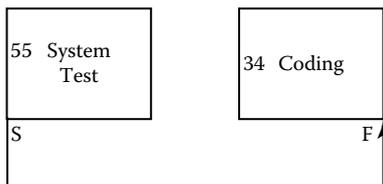

Figure 9.8 A Start-to-Finish (S-F) relationship.
4. Start-to-Finish (S-F; Figure 9.8). This relationship is infrequently used and not implemented in most PC software. The example in Figure 9.8 says that you cannot finish “Coding” until you have started “System Test.”